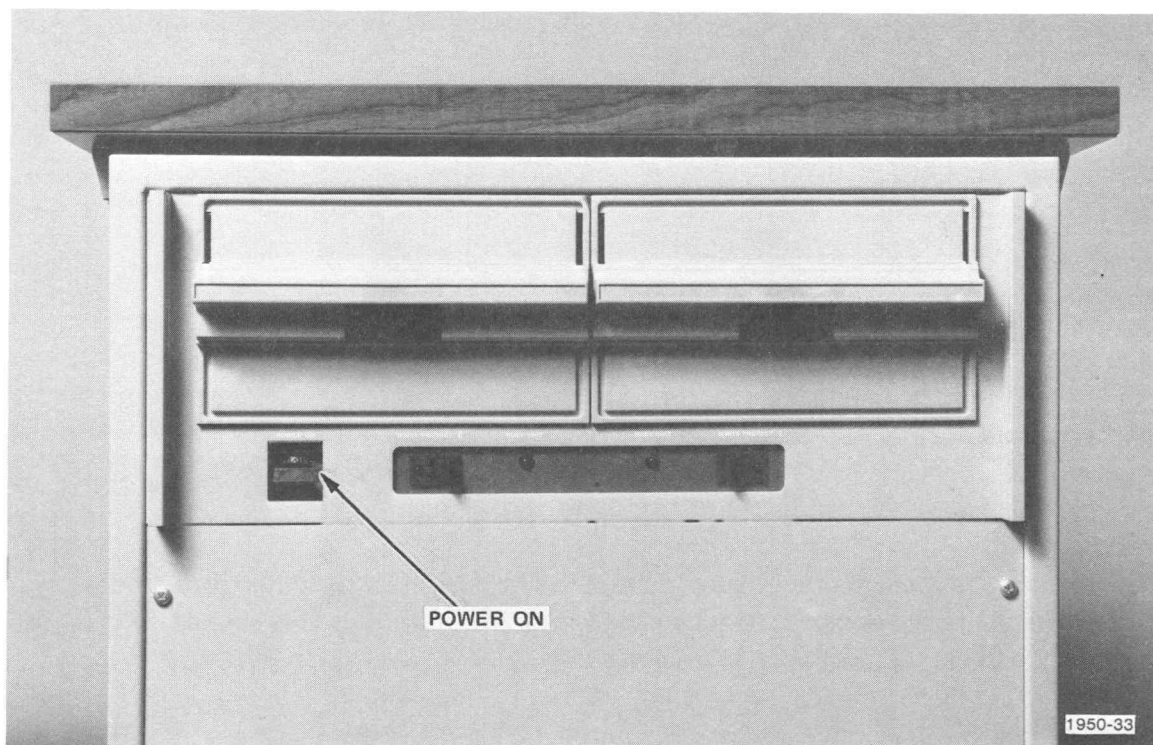

Fig. 8-8. The green light in the POWER ON switch is lit when the Flexible Disc Unit is on.
1. If the Flexible Disc Unit is off, press the top half of the POWER ON switch. There is one POWER ON switch for each drawer of two Flexible Disc Unit drives. The green light in the switch should be lit (Fig. 8-8). The MAIN POWER switch on the lower rear side of the 4905 Mass Storage Module should be in the ON position and the green light in the switch lit.